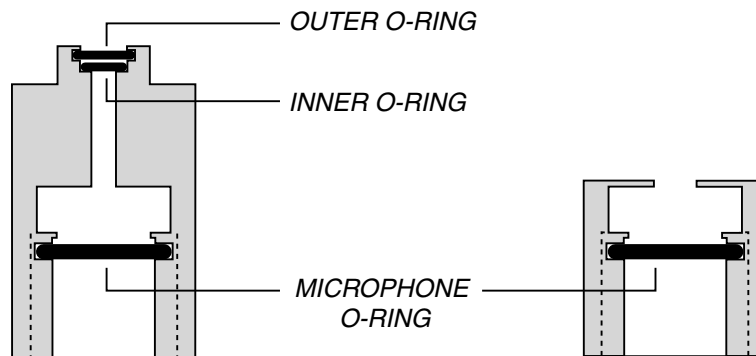
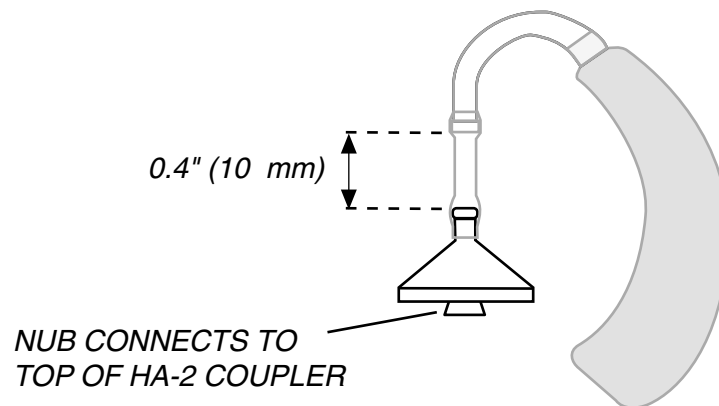

Figure 4.2A
Figure 4.2C
The standard 2-cc coupler (HA-2) approximates the human ear with an earmold attached. A drawing of the HA-2 2-cc coupler is shown in Figure 4.2A. Note the tube that simulates the earmold. Button-type receivers connect directly to this coupler. Behind-the-ear hearing aids connect to this coupler by means of an ear-level adapter, as shown in Figure 4.2C and Figure 4.4.
2. Couple the aid to the HA-2 coupler using the ear-level adapter. There should be 0.4 inches (10 mm) of tubing between the nub of the ear-level adapter and the nub of the coupler adapter*. See Figure 4.2C.